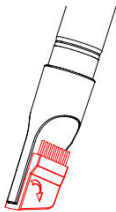

Fig.10
1. As in fig.10, you can use the compressed brush in the corner and the aperture.